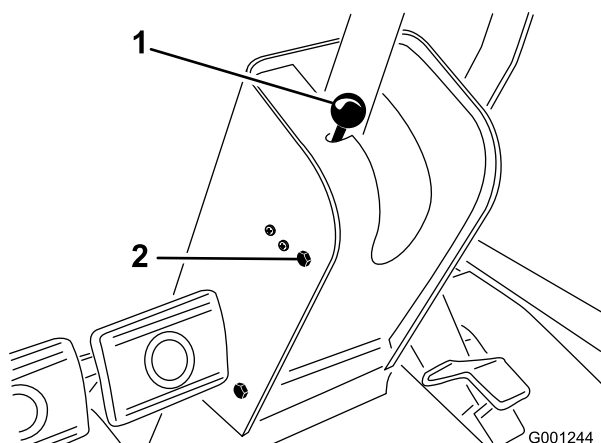

Figure 54
1. Remove knob from parking brake and screws from steering column cover (Figure 54).